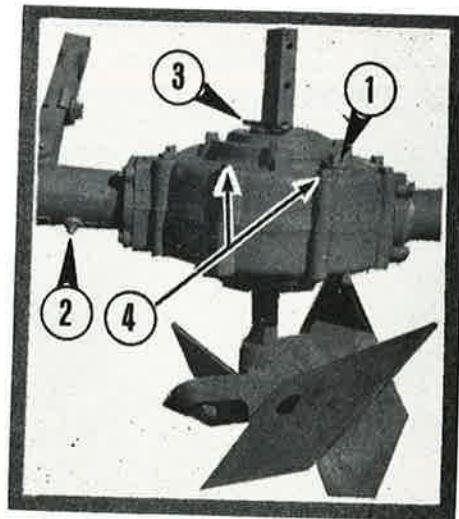

Figure 25
The Rotary Plow is attached to the Tractor by four bolts. Two bolts must be used to attach the Angle Adjusting Bracket, upper left in Figure 25.
Add oil by removing the Oil Filler Plug, 1 in Figure 25.
Use an occasional shot of General Purpose Grease in the swivel casting grease fitting, 2 in Figure 25.
Use the pin or clip, 3 in Figure 25, in the Hex Shaft for initial cutting depth adjustment. The higher on the Shaft the Pin is inserted, the lower the depth of cut and vice versa. Ordinarily, the Pin is inserted in the topmost hole for plowing and in the bottom hole for transporting.
The optional (at no extra cost) Dirt Shield is attached to the top of the Gear Housing by removing the bolts, 4 in Figure 25, inserting them through the Shield, and replacing in the Gear Housing. You can use the Dirt Shield to direct the throw of the dirt, by bending it up or down.
1. Leave the Plow Angle Adjusting Assembly (upper left in Figure 25) attached.